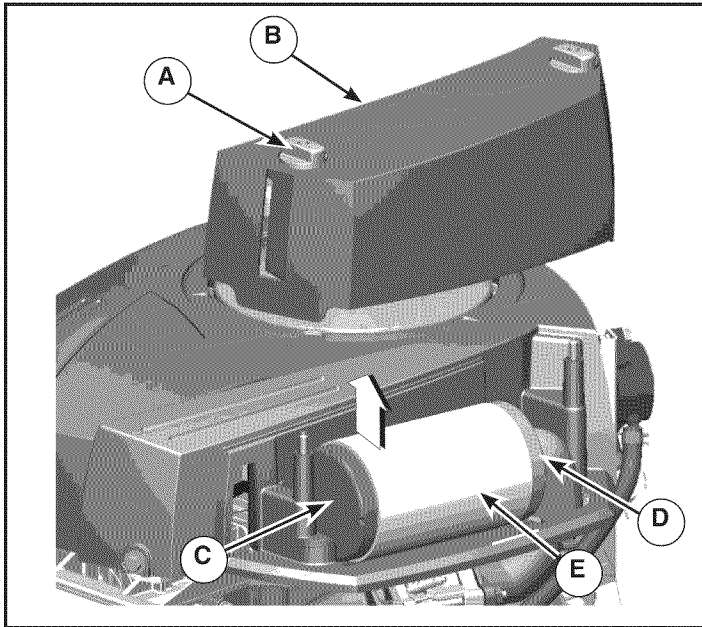

Figure 12
1. Remove the fasteners (**A**, Figure 12) and the air filter cover (**B**).